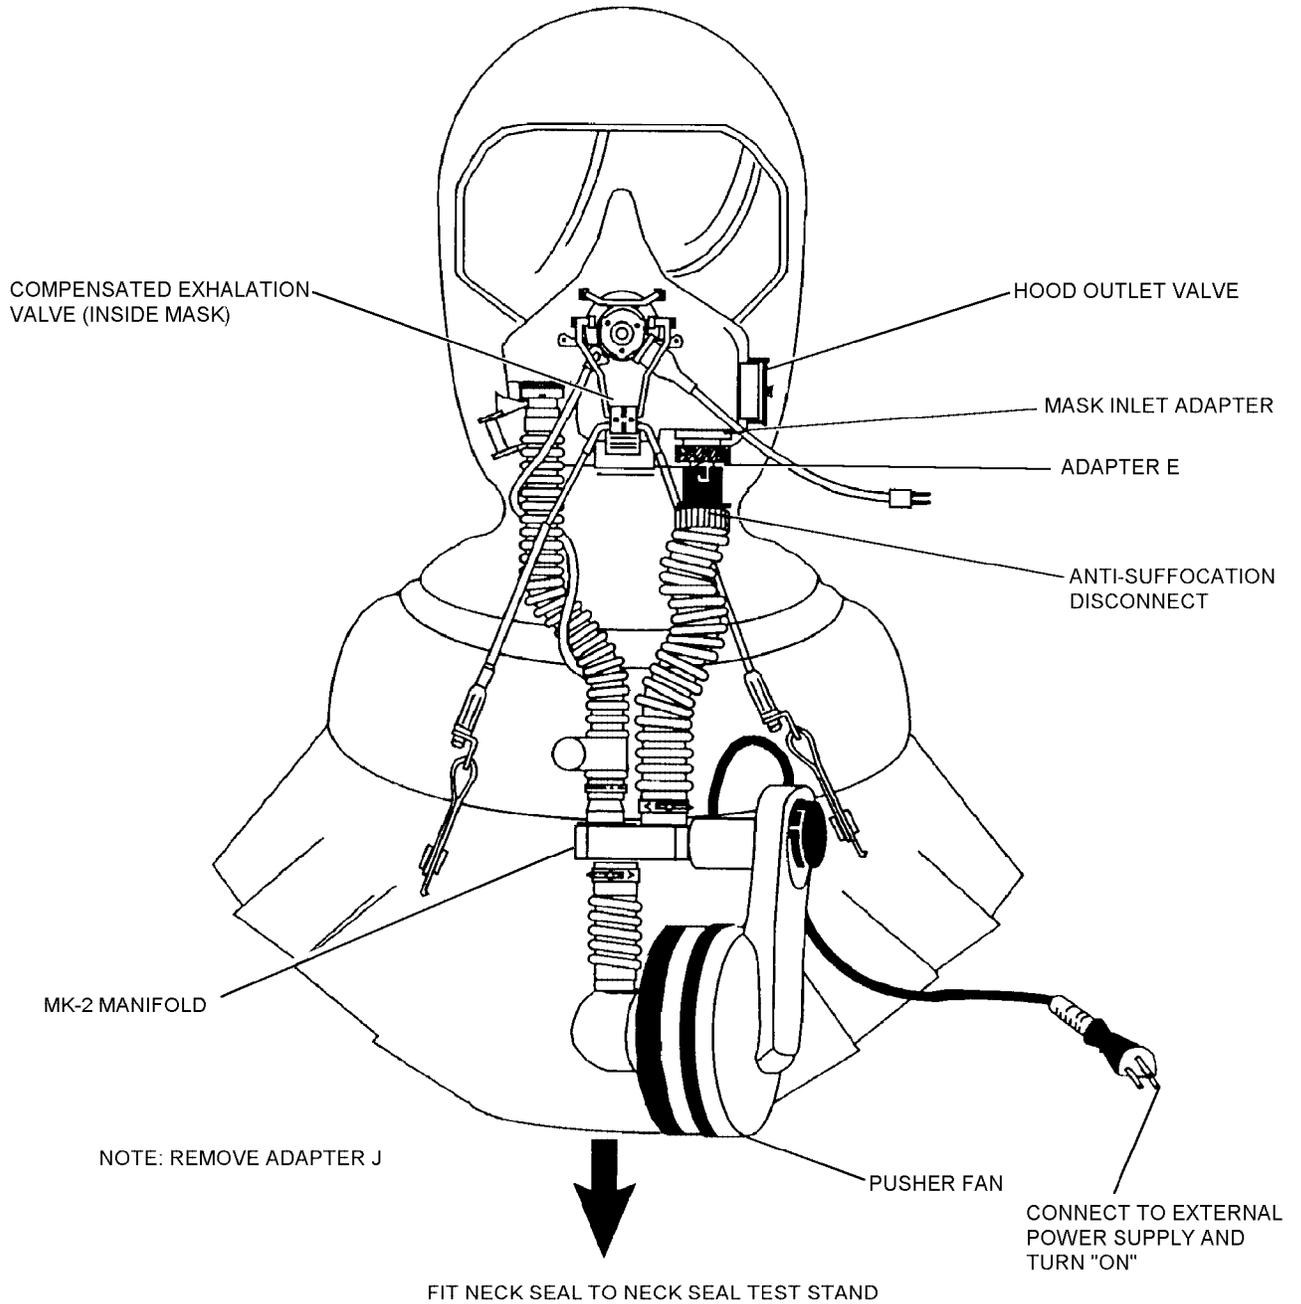

Figure 3-41. Compensated Exhalation Valve - Functional Test
3. Connect adapter E between anti-suffocation disconnect and mask inlet adapter (figure 3-41).